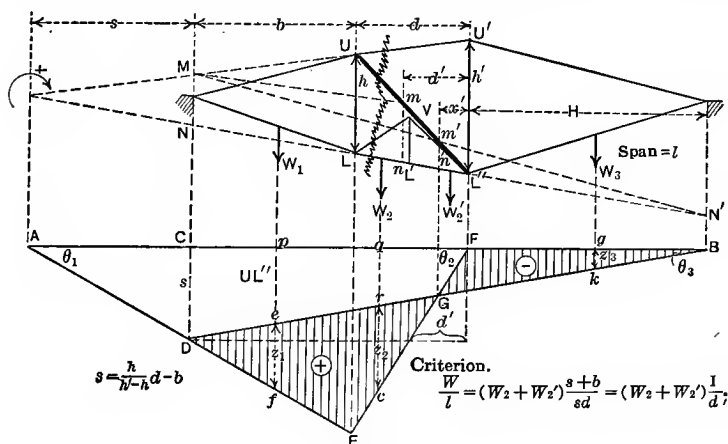

FIG. 9.
**Upper Segment of Diagonal in Sub-strut Truss.**—Referring to Fig. 9, it is clear that the diagonal  $UV$  has the